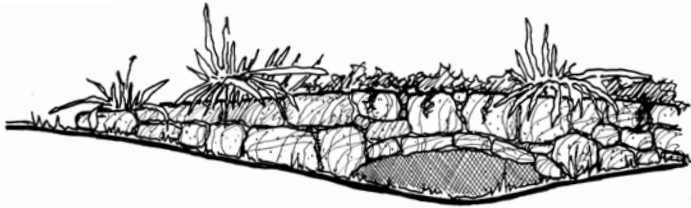

Figure 2.5e - Culverts
- Stone facing is required of all headwalls or similarly related drainage structures visible from off site. See Figure 2.5e